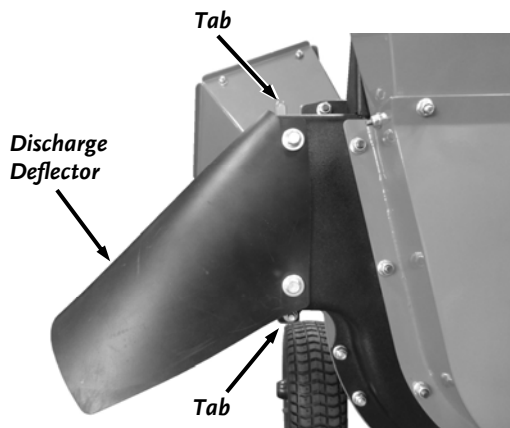

Figure 15
1. Install the open end of the Collection Bag over the rubber discharge Deflector and hook it over the metal housing tabs above and below the Discharge Deflector (**Figure 15**).